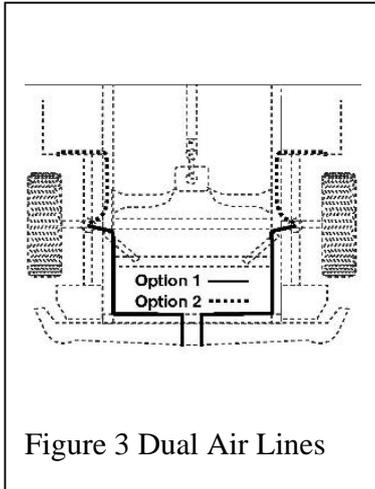

Figure 3 Dual Air Lines
- E. Route airline along frame or under fender panel to desired inflation valve location (**Figure 3**). Attach airline to the chassis with plastic